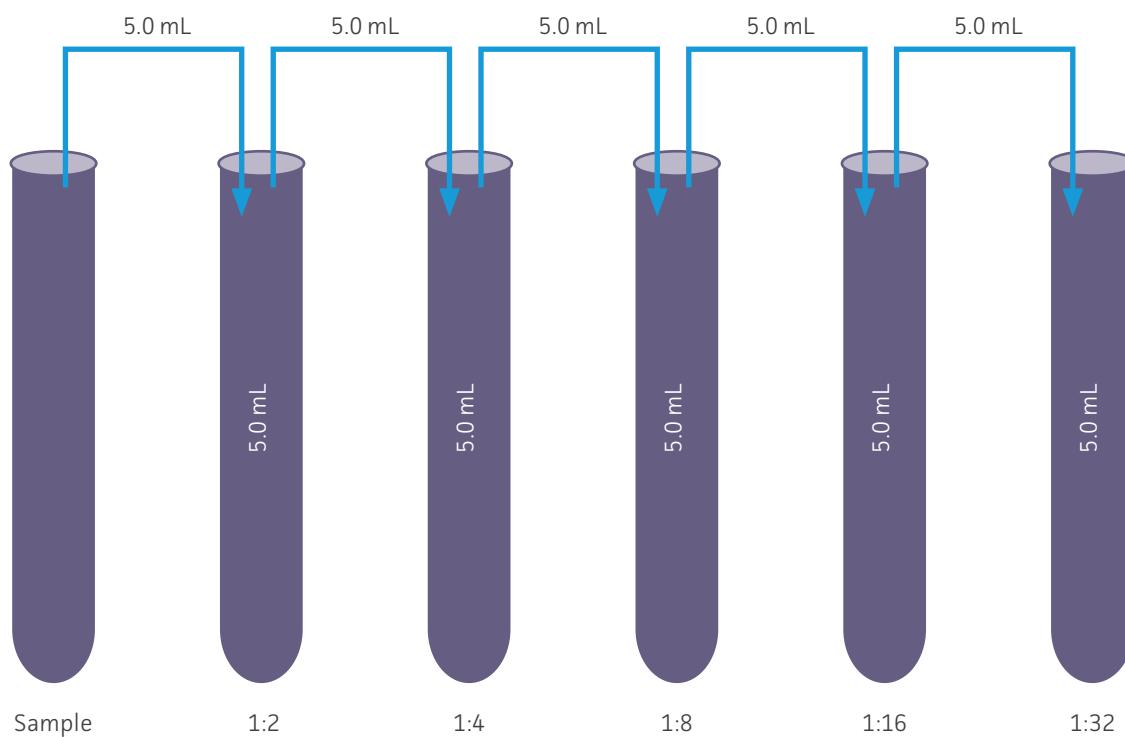

Figure 8: Dilution series for spectrophotometry procedure
- 2 Prepare a dilution series of two-fold dilutions in sterile broth as depicted in FIGURE 8.